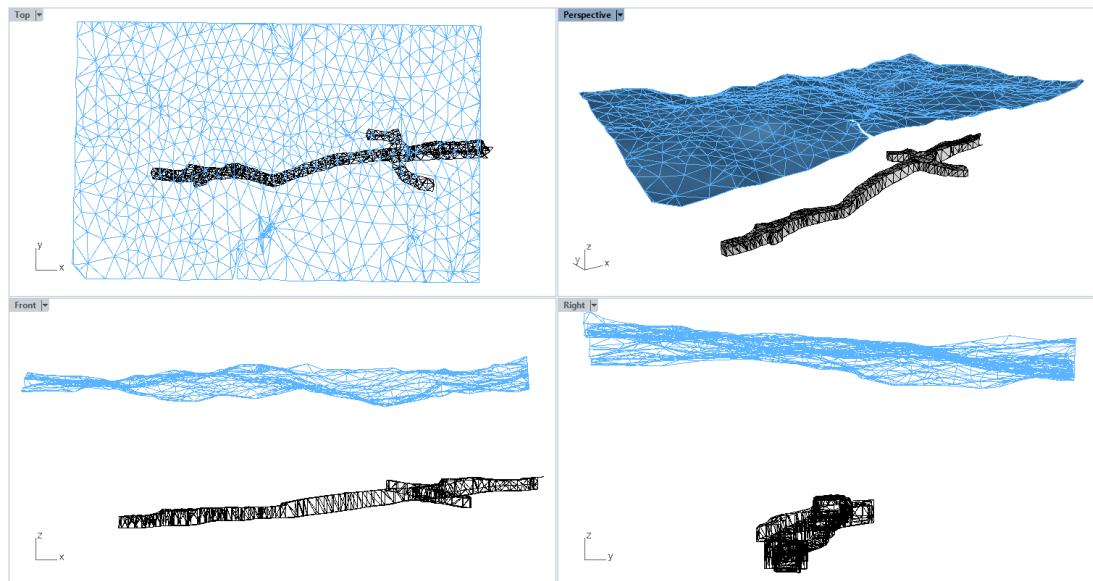

Figure 65: Drift geometry from a mine.
This tutorial provides an example of a model that requires initial mesh cleaning and fixing before further model operations can be done. The model provided as a DXF file contains an existing triangular surface mesh defining drifts in a mine and a topographical surface (Figure 65). Such surfaces often come from minimally processed field measurements by various surveillance systems, and they often consist of triangular meshes, which generally are not clean (often non-conformal, contain overlapping and duplicate faces, missing faces, etc.) Thus, they typically need to be cleaned and remeshed to produce surface meshes suitable for volume meshing.
3. If any of the viewport is maximized, double-click on the viewport icon to restore all four views as in Figure 65.